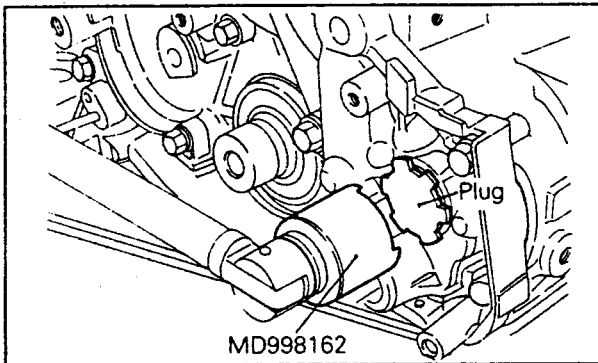

Fig. 15.31. — The plug in the front housing must be tightened as shown.
- Insert the L.H. shaft into the cylinder block at the same time place the housing over the cylinder block. Insert a screwdriver into the block, as shown in Fig. 15.8) to lock the shaft in position and tighten the shaft bolt. Fit the plug with a new "O" sealing ring and tighten the plug shown in Fig. 15.31 to to 2.4 kgm (17 ft.lb.).